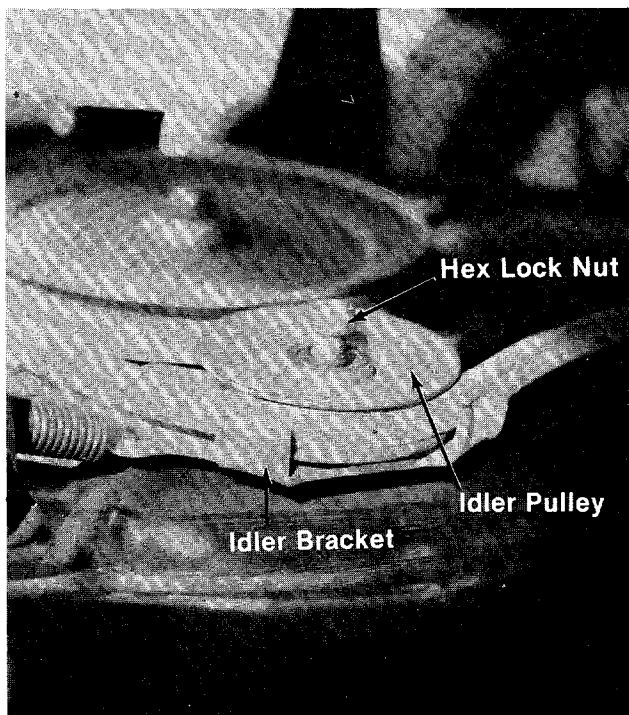

FIGURE 37.
6. Remove the hex lock nut from the idler pulley, located on the left hand side of the deck. A 9/16" wrench is required. See figure 37.